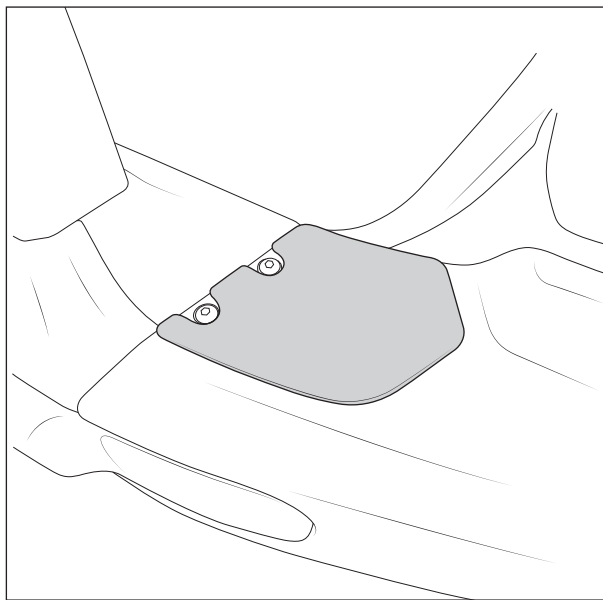

Figure 30
3. Make sure top surface of bumper is clean and dry and install provided adhesive-backed foam step pads as shown (if desired). Be sure to hold in place with strong pressure for at least 30 seconds (fig. 30)